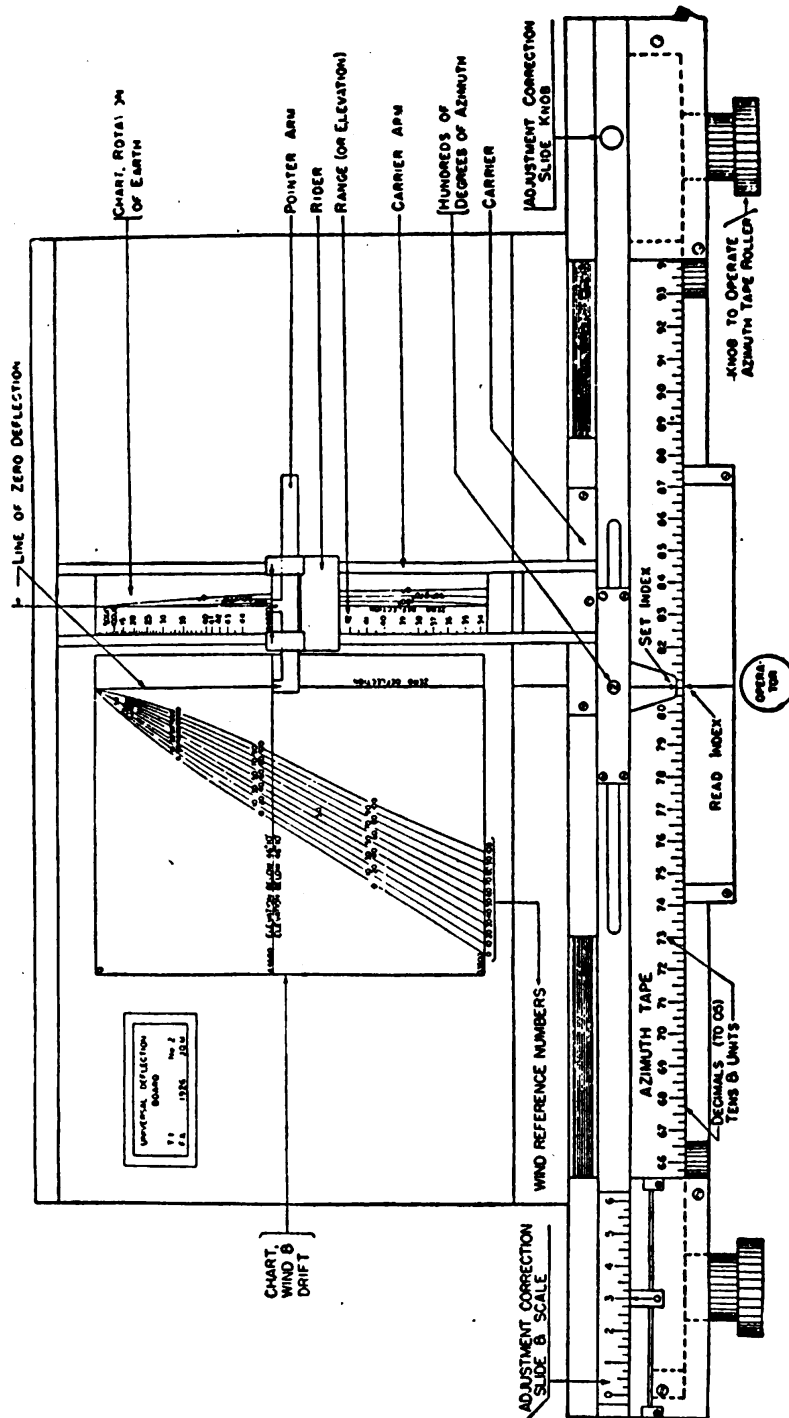

FIGURE 49.—Universal deflection board.
38. Universal deflection board.—*Q.* Point out and state the purpose of each of the parts shown in figure 49. *A.* (See fig. 49.)